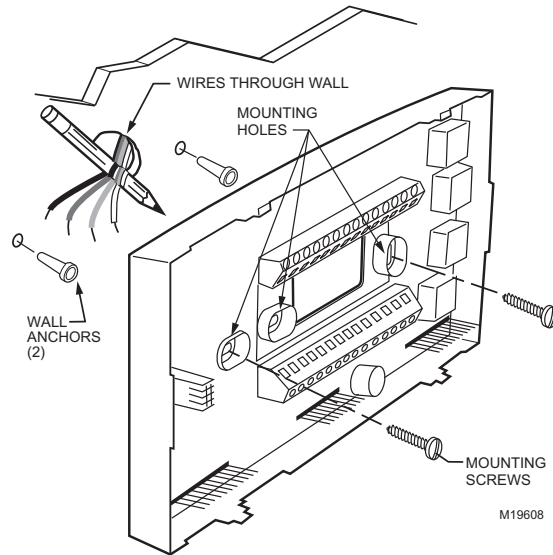

Fig. 3. Mounting the subbase.
- Use a pencil to mark the mounting holes. (See Fig. 3.)